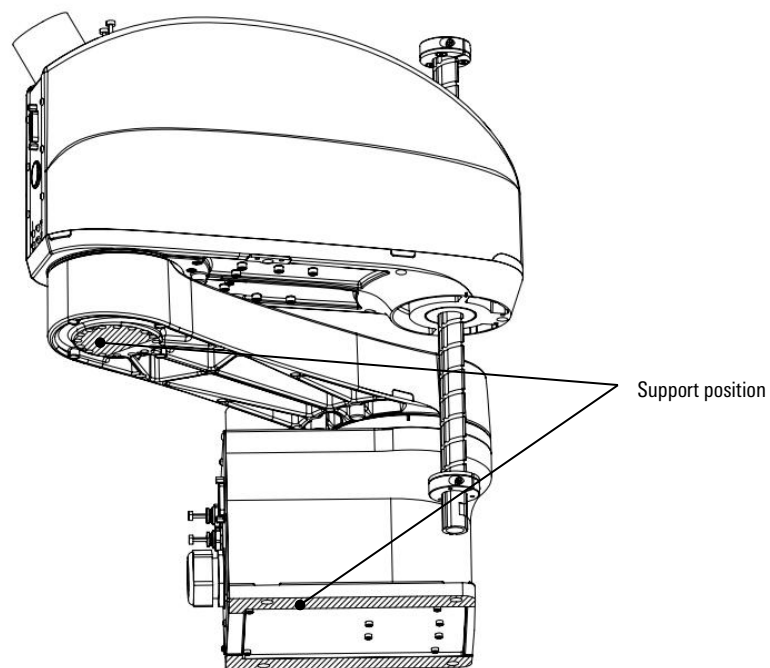

Figure 6- 3 Schematic diagram of the supporting position of the handling manipulator
- When carrying the robot, please fix the robot on a carrying tool (such as a cart), or hold the shaded part (under the first arm and under the base, refer to Figure 6- 3) with your hands and carry it by more than 2 people;